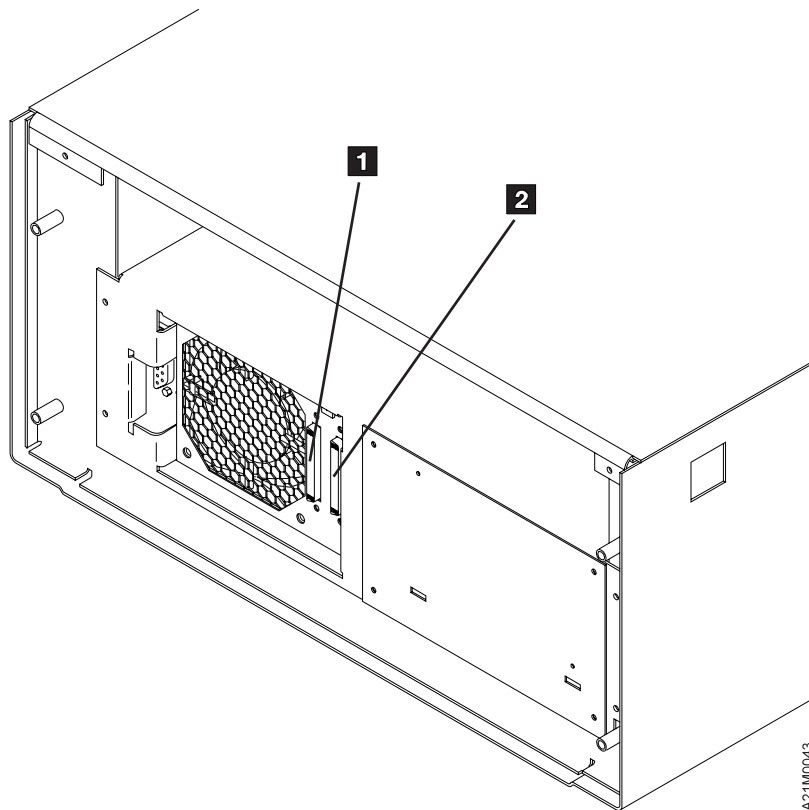

Figure 23. Rear View of Model C01 or C11
2. If the Magstar MP is the first or only SCSI device connected in line to the initiator, connect the SCSI cable coming from the initiator to the leftmost SCSI connector on the back of the library (see **1** in Figure 23).
3. If the Magstar MP is not the first device on the SCSI bus, connect the SCSI interface cable coming from the next closest device to the leftmost SCSI connector on the back of the library (see **1** in Figure 23).
4. If this is the last device on this SCSI bus, locate the SCSI interface terminator (P/N 61G8324) and attach it to the rightmost SCSI connector on the back of the library (see **2** in Figure 23).
5. If the library is not the last device on this SCSI bus, locate the SCSI interface cable to the next device and connect it to the unused, rightmost SCSI interface connector on the back of the library (see **2** in Figure 23).